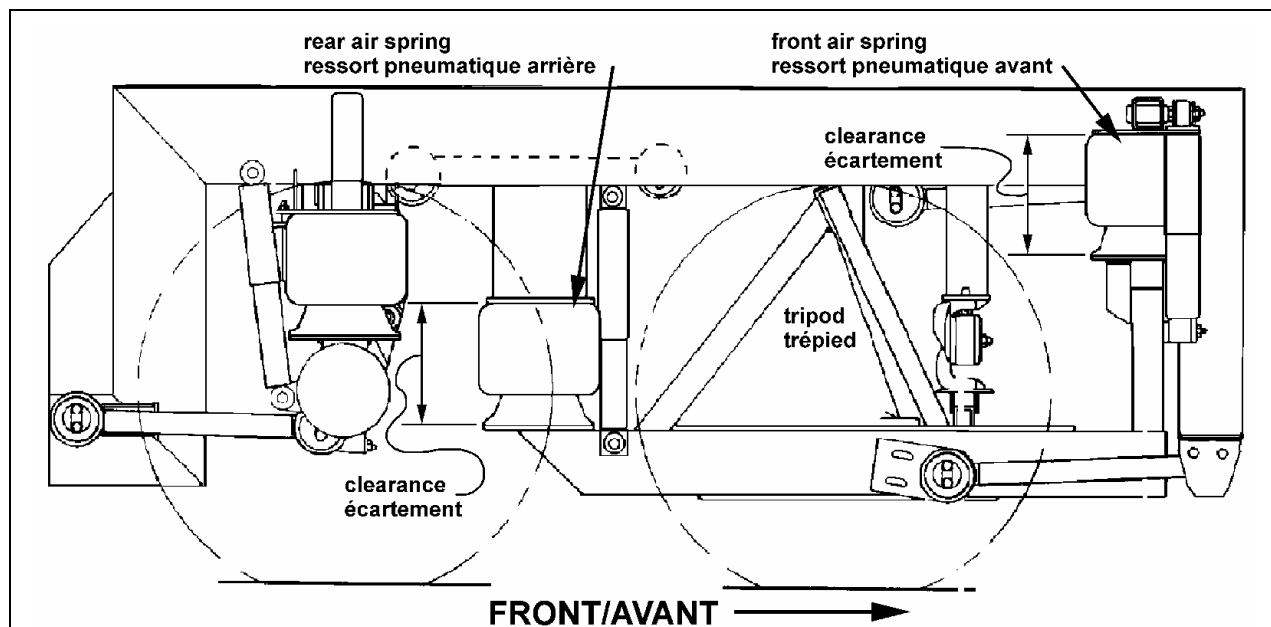

FIGURE 1 : VIEW OF THE COMPONENTS
3. Measure the clearance of the 4 air springs of the drive axle (figure 1). Write down the measurements in table 1, boxes , , & .